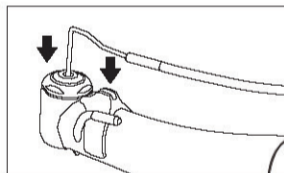

Fig. 8
- Insert the end of the Internal Spray Nozzle into the hole at the top of the handpiece head, then attach the Internal Spray Nozzle into the slot on the Nozzle Holder. (Fig.8)